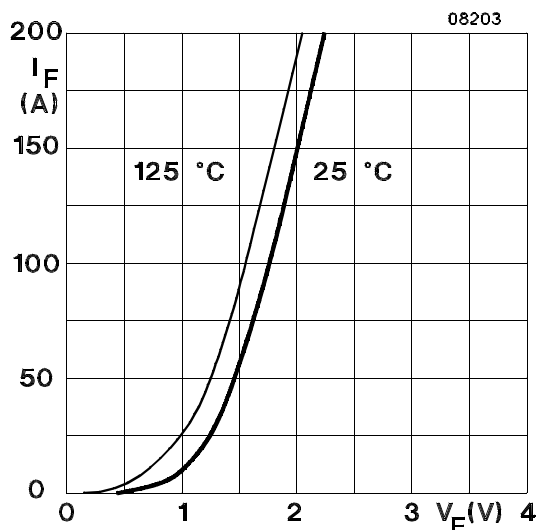

Fig. 17 Typ. CAL diode forward characteristic
9) The inverse diodes D1 and D2 have the function of protective devices only. Data see type SKM 22GD123D (Fig. 17, 18, 22-24)